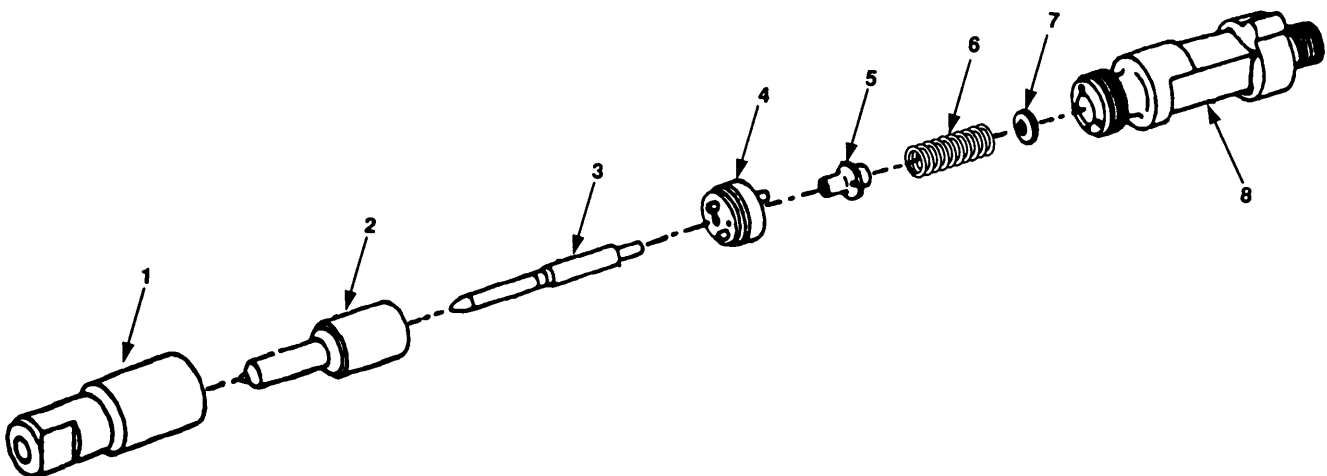

Figure 5-7. Injection Nozzle Maintenance.
- a. Unscrew cap (figure 5-7, 1) and remove body (2), needle (3), and intermediate piece (4).
- b. Remove plunger (5), spring (6), shims (7) from holder (8).